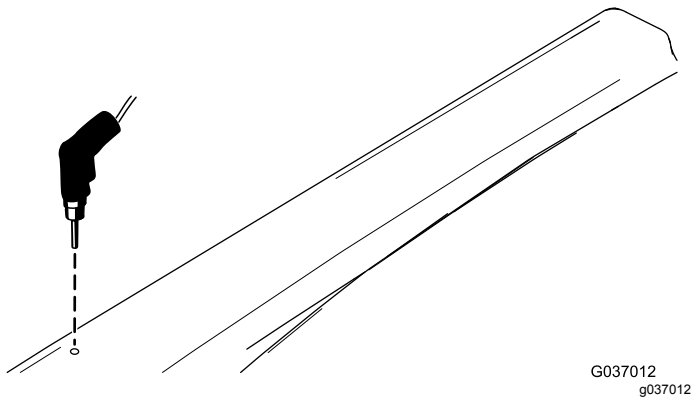

Figure 13
15. Using the hole in the top of the roof-support bracket as the template, drill a 7.9 mm (5/16 inch) hole on each side of the sunshade (Figure 13).